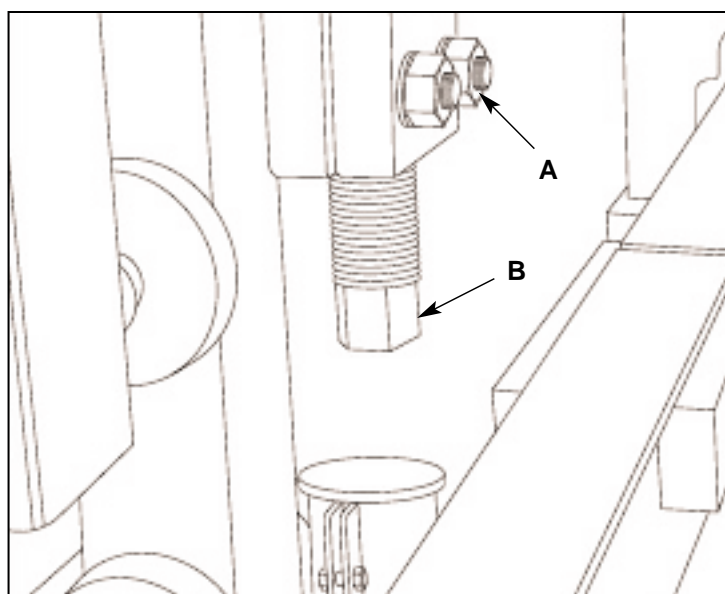

Figure 5.28 HEIGHT PINS ADJUSTMENT (LEFT SIDE SHOWN).
5.7.4 Loosen nuts (A) and set height pins (B) to be this far away – the final result of the measurement in 5.7.3 – from lower height stops (figure 5.28).